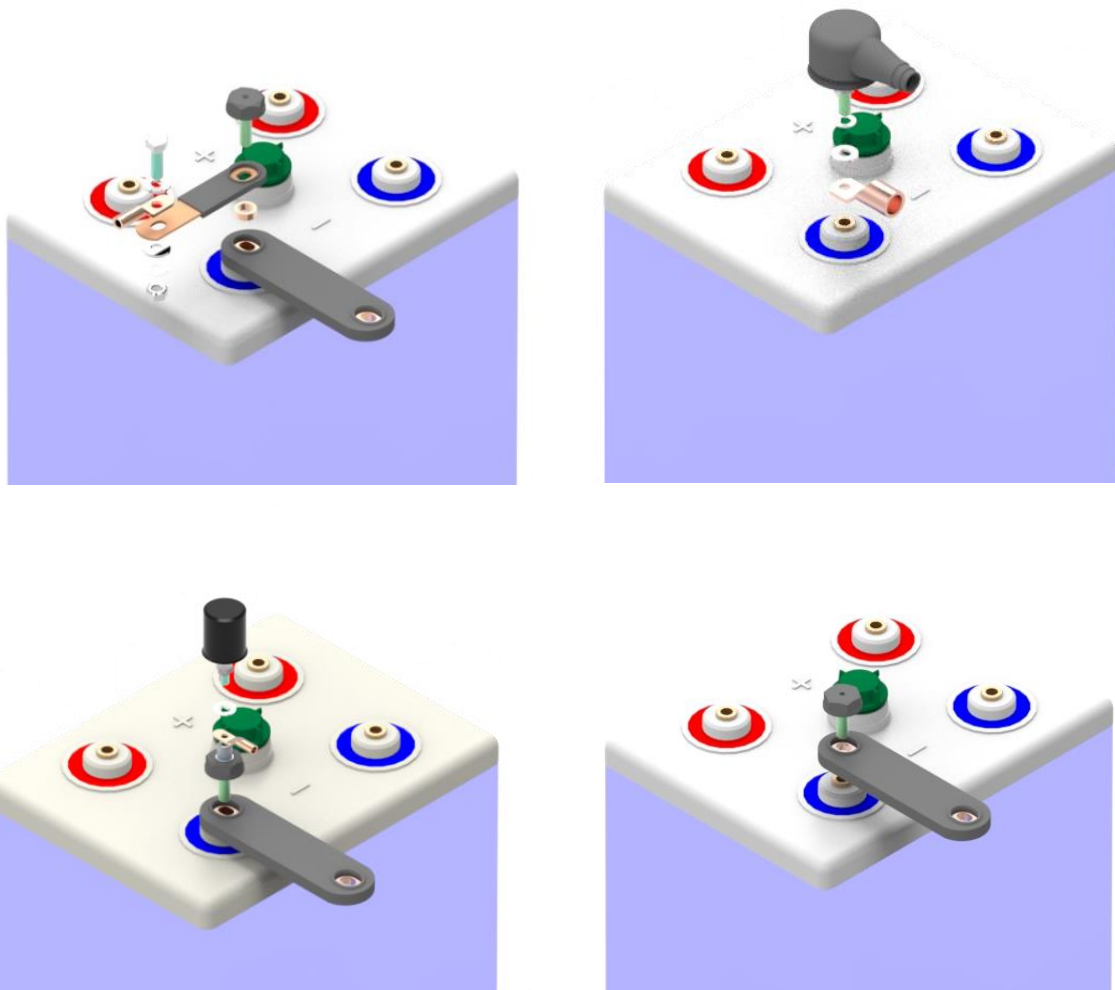

Figure 6.6.7-1 - Pole connection options for voltage taps, monitoring and cable lugs for end connection
1. The cells or block batteries are connected by isolated row connectors (see Figure 6.6.7-1). The negative pole of a cell or block is connected to the positive pole of the next cell or block until the desired total system voltage is reached.